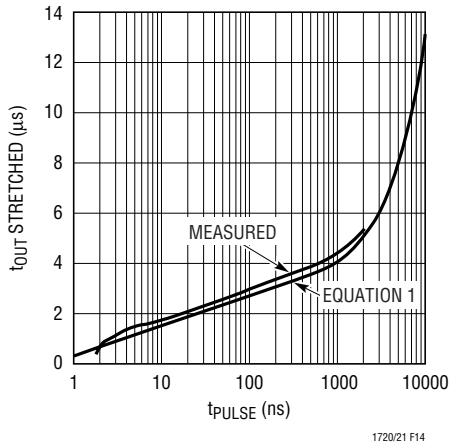

Figure 14. Log Pulse Stretcher Output Pulse vs Input Pulse
The circuit topology itself is extremely fast, limited theoretically only by the speed of the diode, the capture time constant τ1 and the pulse source impedance. Figure 14 shows results achieved with the implementation shown, compared to a plot of equation (1). The low end is limited by the delivery time of the upstream comparators. As the input pulse width is increased, the log function is constrained by the asymptotic RC response but, rather than becoming clamped, becomes time linear. Thus, for very long input pulses the third term of equation (1) dominates and the circuit becomes a 3μs pulse stretcher.
easily measured  $1.70\mu\text{s}$  output pulses. A 12 foot cable length difference will result in  $\sim 18.4\text{ns}$  delay and  $2.07\mu\text{s}$  output pulses. The difference in the two output pulse widths is the per-octave response of your circuit (see equation (3)). Shorter cable length differences can be used to get a plot of circuit performance down to  $1.5\text{ns}$  (if any), which can then later be used as a lookup reference when you have moved from quantifying the circuit to using the circuit. (Note there is a slight aberration in performance below  $10\text{ns}$ . See Figure 14.) As a final check, feed the circuit with identical cable lengths and check that it is not producing any output pulses.